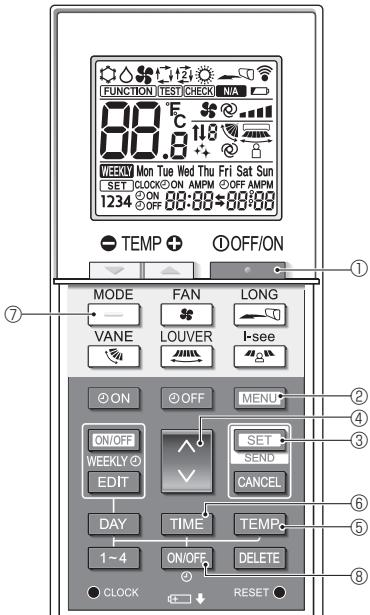
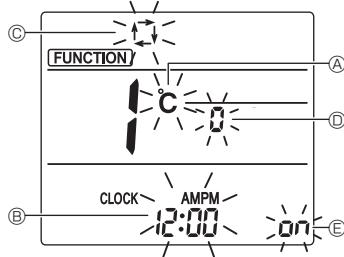

Fig. 5-14
Fig. 5-15
- Press the **—** button ① to stop the air conditioner.
- Press the **MENU** button ②.
- The Function setting screen will be displayed and the function No. Ⓐ will flash. (Fig. 5-14)
- Check that function No. "1" is displayed, and then press the **SET** button ③.
- The Screen display setting screen will be displayed. (Fig. 5-15)
- Press the **▼** button ④ to change the function No.
5.13.2. Changing the temperature unit (Fig. 5-15 Ⓐ)
- Press the **TEMP** button ⑤.
- Each time the **TEMP** button ⑤ is pressed, the setting switches between **℃** and **°F**.
5.13.3. Changing the time display (Fig. 5-15 Ⓑ)
- Press the **TIME** button ⑥.
- Each time the **TIME** button ⑥ is pressed, the setting switches between **12:00** and **24:00**.
5.13.4. Changing the AUTO mode (Fig. 5-15 Ⓒ)
- Press the **—** button ⑦.
- Each time the **—** button ⑦ is pressed, the setting switches between **⌚** and **⌚⌚**.
5.13.5. Changing the pair No. (Fig. 5-15 Ⓓ)
- Press the **▼** button ④.
- Each time the **▼** button ④ is pressed, the pair No. 0~3 changes.
- Press the **ON/OFF** button ⑧.
- Each time the **ON/OFF** button ⑧ is pressed, the setting switches between **on** and **off**.
- Press the **SET** button ③.
- The function No. Ⓐ blinks (Fig. 5-14)